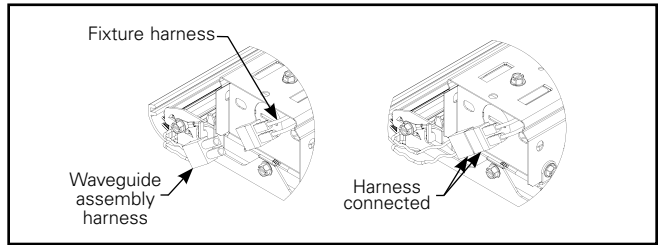

Figure 6.
- 5. Connect LED wire harness at the end of the waveguide assembly (Figure 6)